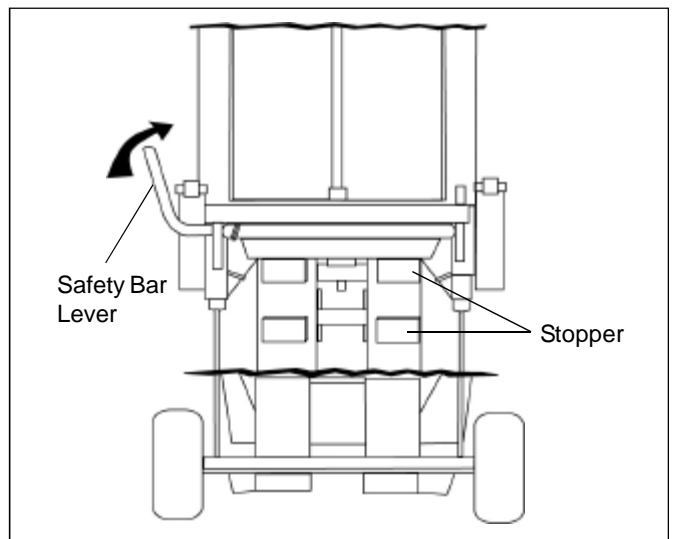

Figure 5. Air Operated End Lift Components (rear view)
- * **To disengage safety bar:** Push safety bar lever towards front end of the jack. (see Figure 5)